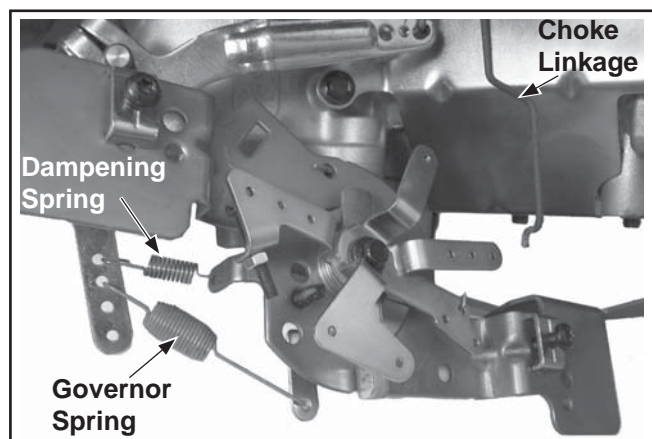

Figure 8-12. Disconnecting Linkage and Governor Springs.
2. Disconnect the choke linkage from the choke actuator lever. Unhook the governor spring, and dampener spring from the governor lever. Note the hole locations for reassembly. See Figure 8-12.